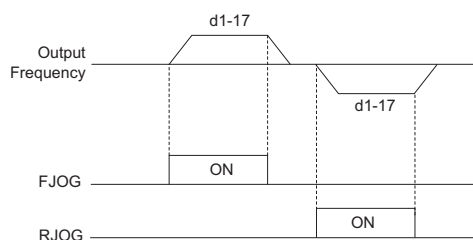

**Figure 5.61 Up/Down Command Operation**
**Figure 5.61** shows an Up/Down function example with a lower frequency reference limit set by d2-02, and the frequency reference hold function both enabled (d4-01 = 1) and disabled (d4-01 = 0).